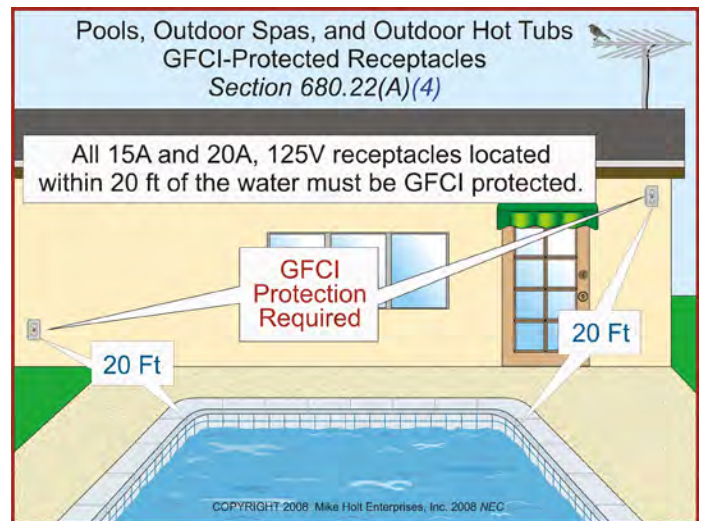

Figure 680-16
(4) GFCI-Protected Receptacles. All 15A and 20A, 125V receptacles located within 20 ft from the inside walls of a permanently installed pool, outdoor spa, or outdoor hot tub must be GFCI protected. **Figure 680-16**